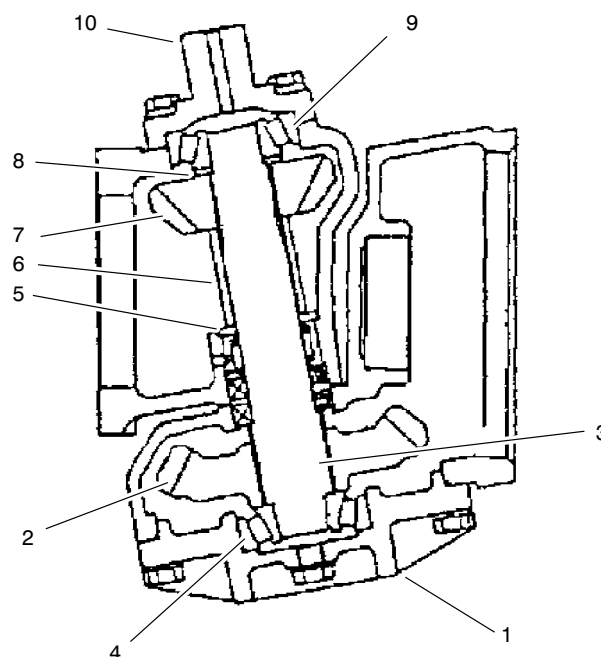

Figure 7
2. Install the lower bevel gear, and bevel gear shaft in the axle case cover. Coat a new O-ring with grease and install the axle case cover (Fig. 7). Tighten cover screws to 17 to 20 ft-lbs. (23 to 27 Nm).
3. Slide the bevel gear case over the bevel gear shaft and install the thrust washer, spacer, bevel gear, and collar. Make sure the bevel gear shaft is completely seated in the upper and lower bearings (Fig. 7).